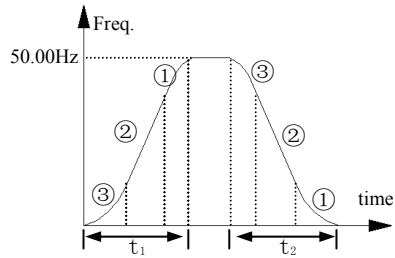

Fig. 7-2 S curve acc/dece
1: S curve acc/dece mode. Output frequency raise or decline as the S curve: as fig.7-2.
S curve starts interval time as fig.7-2③, output frequency changed slope increase slowly from zero.
S curve up interval time as fig.7-2②, output frequency changed slope is constant.
S curve ends interval time as fig.7-2①, output frequency changed slope decrease slowly to zero